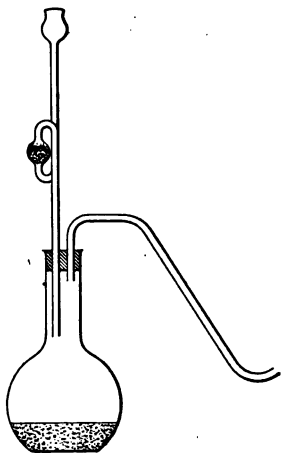

Fig. 6.
1. Carefully slip a few pieces of zinc into the flask, insert the stopper, and pour through the safety-tube enough dilute sulphuric acid to barely cover the zinc. (See Fig. 6.) Collect the gas evolved by displacement of water, after allowing the air of the flask to pass out into the room.